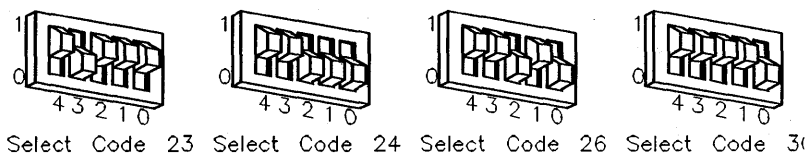

Figure 10-2. GPIO Interface Card Select Code Settings
3. Set these switches to one of the four select codes given in Figure 10-2, unless you have used them elsewhere. Refer to the installation note that came with the interface if you need additional switch settings.